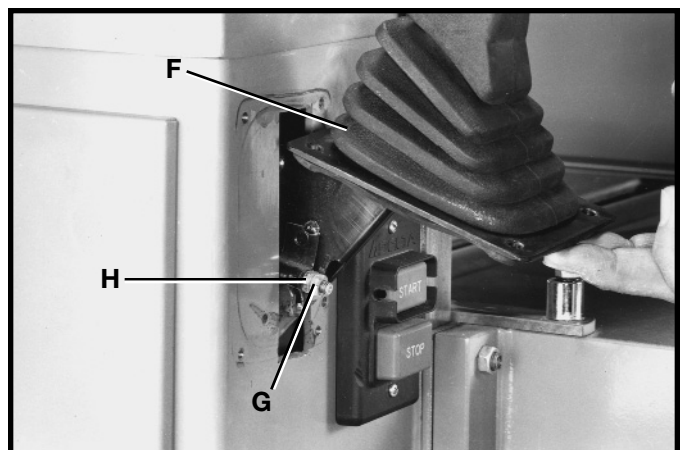

Fig. 32
- Raise boot (F) Fig. 32, to gain access to adjustment hardware.
- Loosen jam nut (G) Fig. 32, and tighten or loosen adjustment hex nut (H) as necessary to adjust feed roller belt tension.
- Tighten jam nut (G) Fig. 32, against hex nut (H) after adjustment is made.